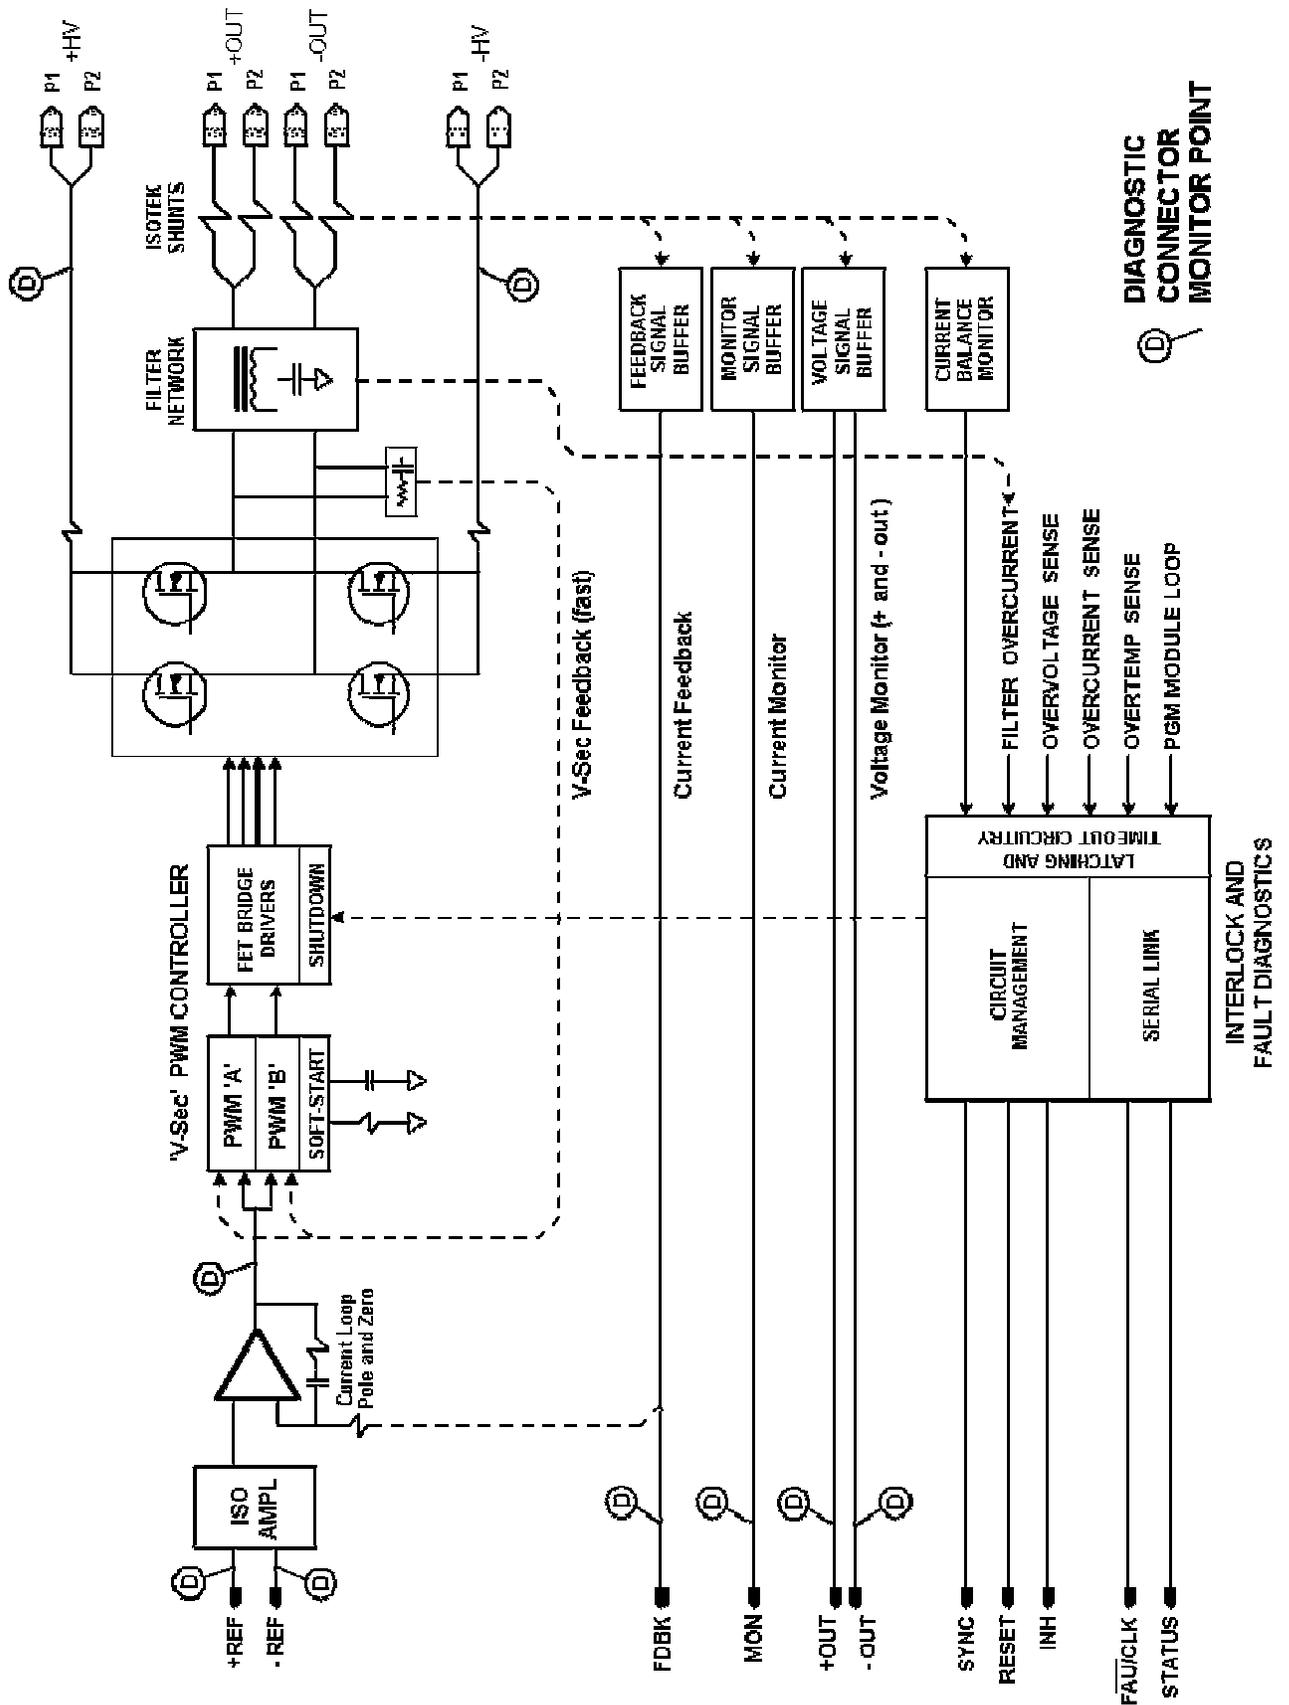

Figure 2.2. MCOR30 Block Diagram.
2.2 Theory Of Operation. The MCOR30 power module is a second-generation design, developed for the SPEAR III project at SLAC. The functional diagram of the MCOR30 is shown in **Figure 2.2**. The MCOR30 can be divided into four functional sections: Power regulation and filtering, precision current measurement, Error amplifier / PWM control and the diagnostic circuitry.
2.2.1 Power Regulation and Filtering. The MCOR30 regulates the DC output current by controlling the pulse width of an H-Bridge power MOSFET array as shown in **Figure 2.2.** The switching frequency is typically 40 to 60kHz. This particular H-Bridge design differs from the standard approach, in that each bridge leg has its own independent PWM controller. The H-Bridge shown here can actually be viewed as two independent buck converters. Each leg of the H-Bridge can operate at an independent duty cycle, between 0 and 100%. The output voltage of each leg is unipolar, yet the output current to the magnet is bipolar. Positive magnet current occurs when the positive output is driven and the negative output is clamped to ground, and negative magnet current occurs when the negative output is driven and the positive output is clamped to ground.
As shown in **Figure 2.2**, there is a fast 'volt-seconds' feedback loop inside of the slower and more precise current feedback loop. This volt-seconds loop is an adaptation of the standard 'current-mode' control loop scheme. In switchmode power supplies with output filters, current-mode control can offer much faster transient response times than voltage-mode control, since current-mode operation can perform a 'pulse-by-pulse' regulation of the output filter current where voltage-mode operation must integrate the output voltage over the filter response time. Although current-mode schemes are faster, they more complex -- requiring a fast current measuring circuit floating at the voltage of the inductor. Standard current-mode regulators are prone to sub-harmonic oscillations and other instabilities as well, which in some cases are not solvable.